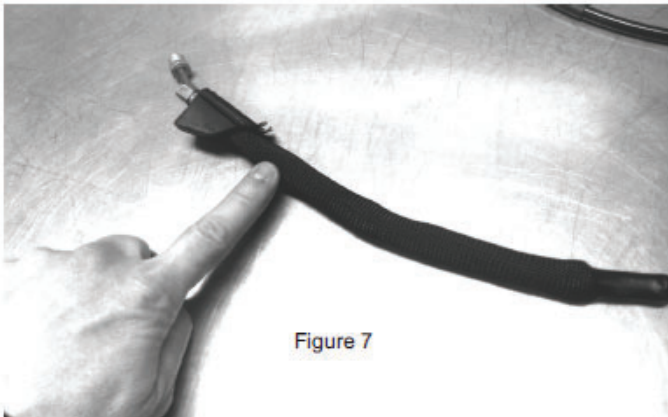
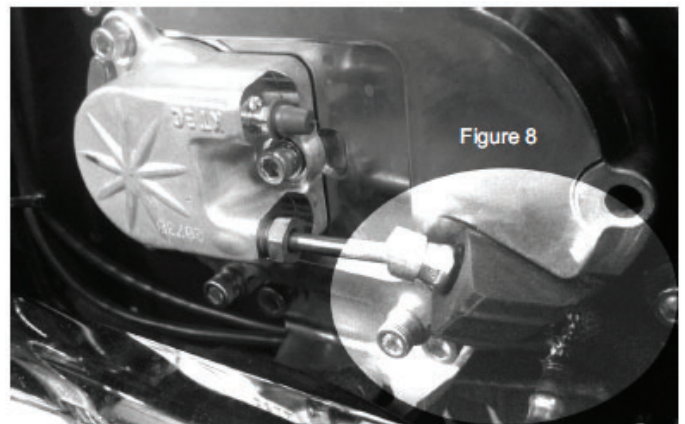

Figure 7
Figure 8
- Refer to your factory authorized service manual for proper clutch line removal. Once the line is free from the bike, carefully remove the stock rubber grommet and protective sheathing from the stock line (**Figure 7**). Be sure to note orientation of rubber grommet as this will be used on the new extended line. Install rubber grommet and sheathing on the Burly extended clutch line making sure grommet is oriented properly on the line (**Figure 8**).